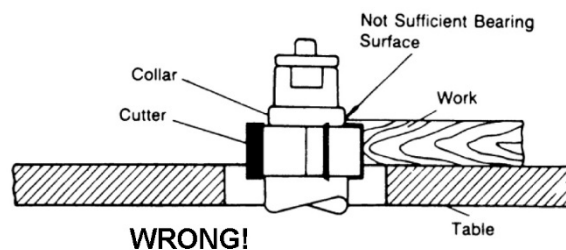
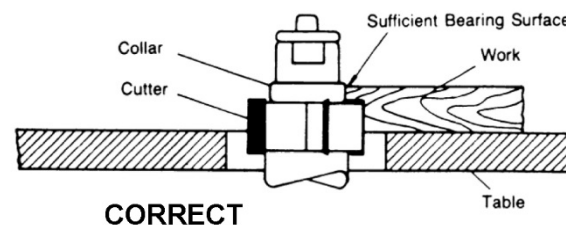

Figure 13
Figure 14
3. A portion of the work's edge must remain untouched by the cutter so that the collar will have sufficient bearing surface. See Figure 13 for an example of insufficient bearing surface. Figure 14 shows sufficient bearing surface.